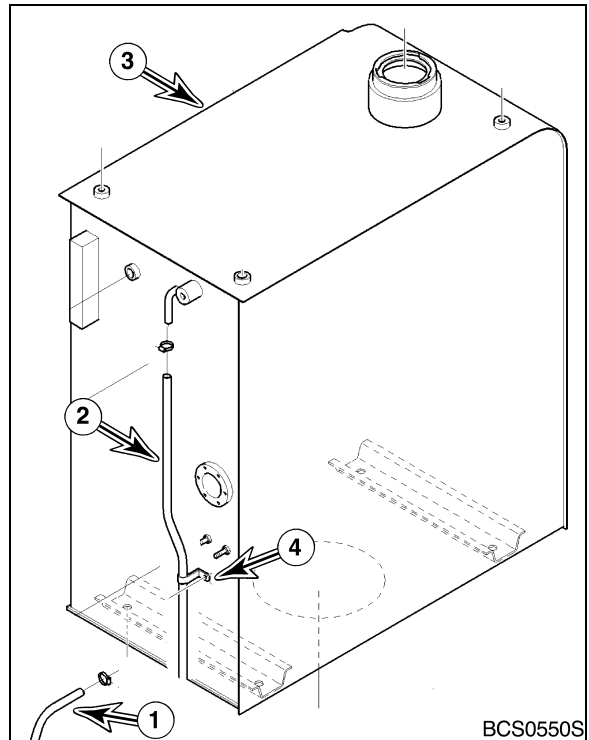

Figure 16
10. Connect as tagged, fuel supply line (1, Figure 16) and fuel return line (2) to fuel tank (3).
11. Install clamp (4, Figure 16) to hold fuel return line (2) to tank (3).